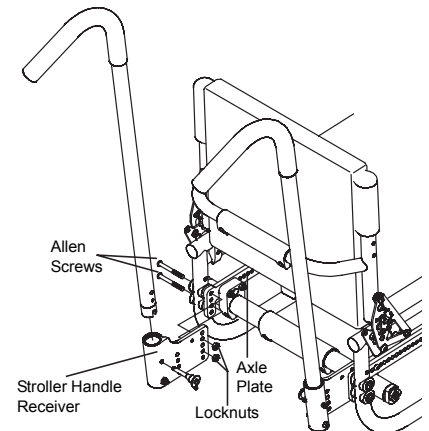

Figure 32
The stroller handles operate using stroller handle receivers that operate similarly to the swing away armrest receivers on the TRA, YRA and EVO wheelchairs. Figure 32 shows the YG Series stroller handle receiver.
1. Remove the Allen Screws that secure the stroller handle receiver to the frame. See Figure 32.